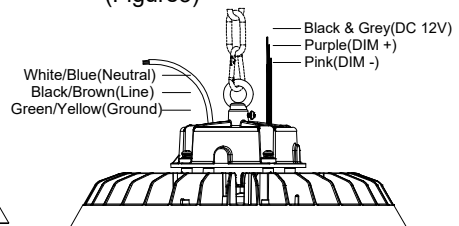

Figure 3
③ After installation,connect the wire of the fixture to the mains according to the local wiring rules,ensure the connection is stable And make good protection on the connection (Figure3)